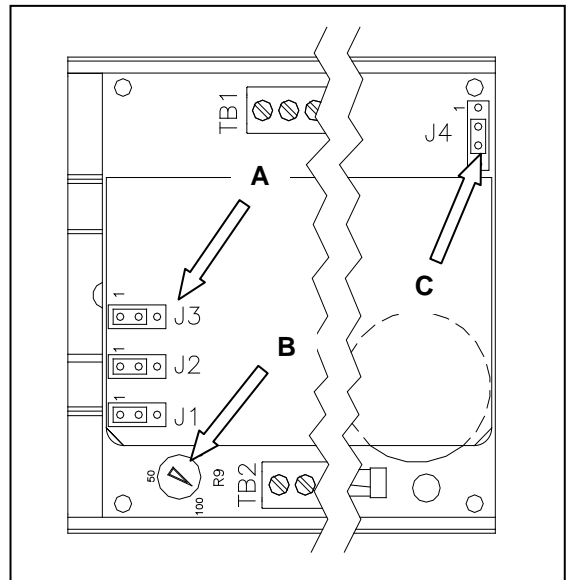

Figure 3-12. TM4500 Configuration
6. Set jumpers JP1, JP2 and JP3 so that the jumper covers pins 1 and 2 (Figure 3-12 A).
7. Set the POT so that the arrow points to 100 (Figure 3-12 B).
8. Set jumper JP4 so that the jumper covers pins 2 and 3 (Figure 3-12 C).